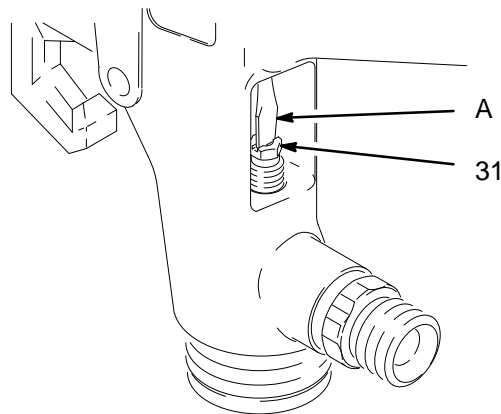

Fig. 2
5. Pull the fluid needle (21) out the back of the gun.
6. Remove the trigger (3).
7. Remove the fluid adjustment nut (6), spring (15), and air valve (14).
8. To remove the packing adjustment screw (31), insert a thin-blade screw driver (A) through the back of the gun and into the packing adjustment screw (31) as shown in Fig. 2. Be careful not to nick or damage parts with the tool.